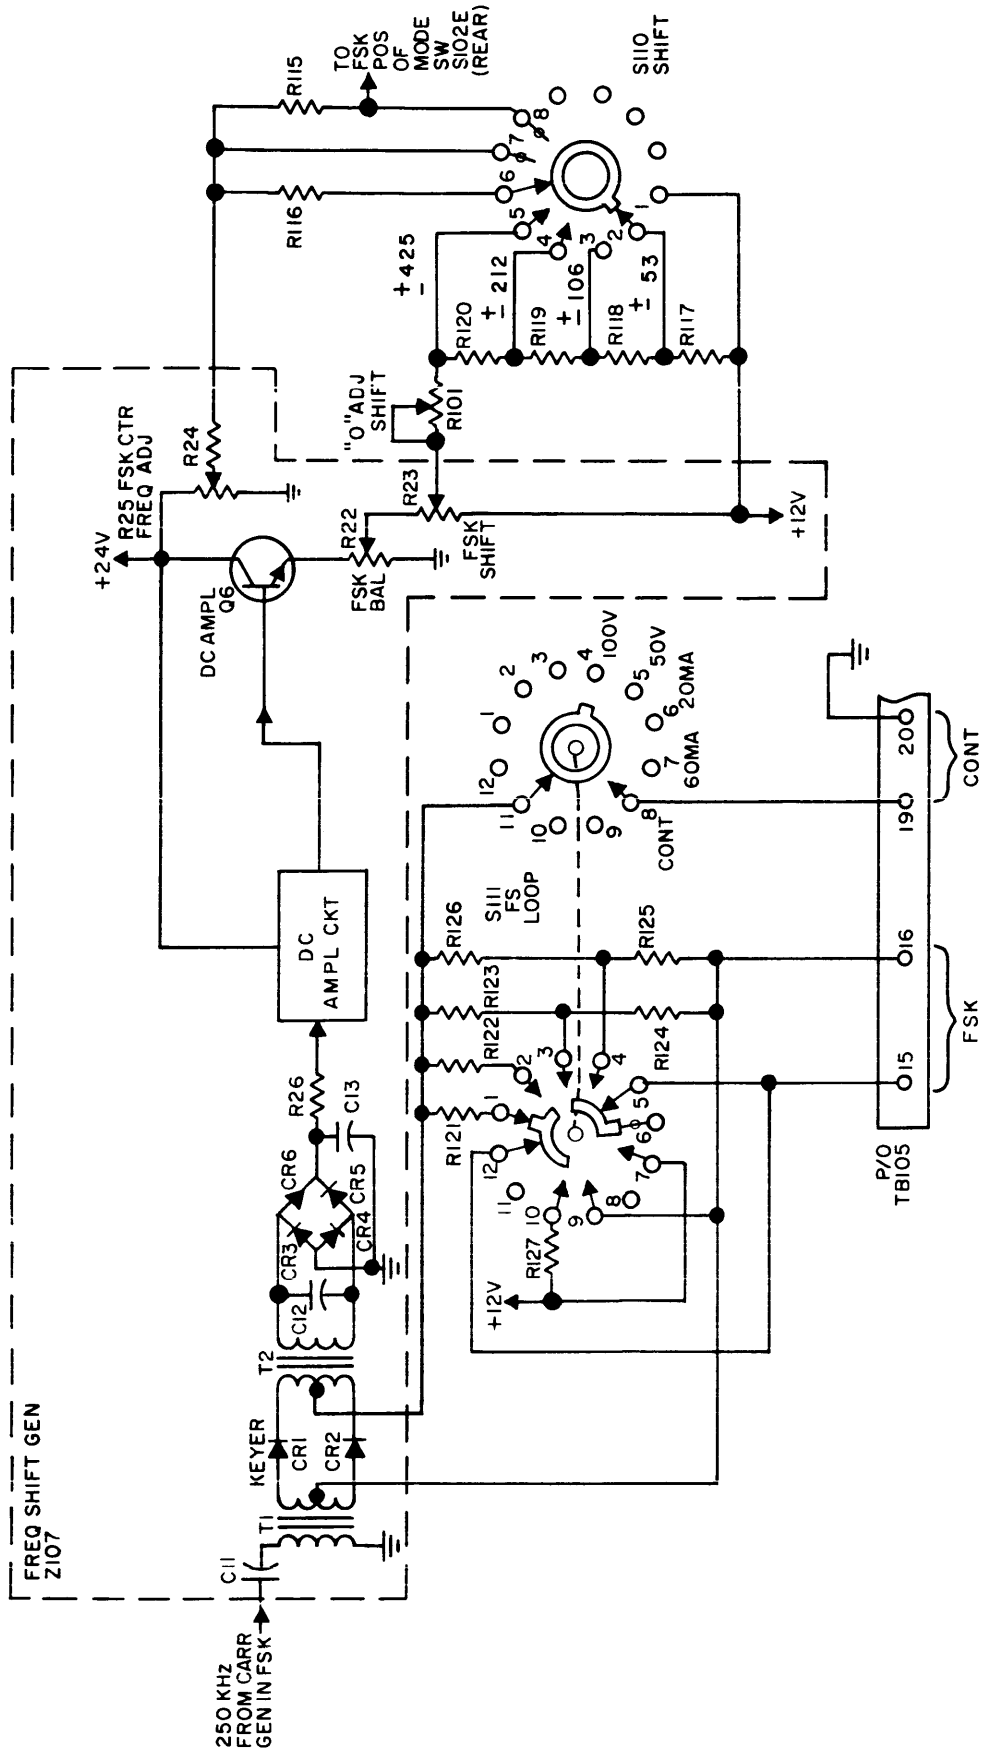

Figure 4-4. Frequency Shift Keyer Circuit, Simplified Schematic Diagram
f. FREQUENCY SHIFT GENERATOR Z107. (See figures 4-4 and 7-5.) The frequency shift generator is operational in the frequency shift keyer (FSK) and facsimile (FAX) modes of operation, and consists of three distinct sections; namely, the 1.4166 MHz VXCO buffer-amplifier, the FSK keyer and modulator, and the FAX circuit.
(1) Both FSK and FAX operation is initiated when MODE switch S102D (front) is set to either the FSK or FAX position as previously indicated in the discussion of MODE switching. In either of these positions, S102D supplies a +12 vdc enable to both the 1.4166 MHz crystal voltage controlled oscillator Z302 in the power supply assembly, and to the buffer-amplifier circuit in frequency-shift generator Z107. With MODE switch S102 in the FSK position, S102C (rear) (through contacts 9 and 10) routes the 250 kHz subcarrier frequency from carrier generator Z104 to the frequency shift generator keyer circuit (via pin 4 of jack J107) consisting of coupling transformers T1/T2 and keyer diodes CR1/CR2. The keyer circuit is, in effect, a modulator, in that the 250 kHz input is interrupted by a dc current representing marks and spaces from an externally connected dry-contact keyer or teletype at terminals 15 and 16 of TB105. (See figure 4-4.) The keyer input pins F and E of jack J107 is connected to the modulator through FS LOOP switch S111 which is set to the 100V or 50V positions when dry contact keying is used, and to the 20mA or 60mA positions to match the dc battery loop when a teletype keyed input is used. The external keying rate is 200 WPM and 75 bauds. By keying the 250 kHz subcarrier, a frequency shift above and below center frequency is obtained, corresponding to the marks and spaces of the teletype input. This signal is coupled through T2 to the full-wave bridge rectifier consisting of diodes CR3 through CR6; the resultant varying dc signal is then applied to a series of three dc amplifiers, Q3 through Q5, and an output emitter follower, Q6. (See figure 7-5.) Amplifier Q4 is inserted in the circuit when dc SENSE switch S109 is in the positive (+) position; otherwise, in the negative (-) position, Q4 is bypassed. The variable dc output is developed across FSK Balance potentiometer R22 and applied to FSK Shift potentiometer R23; the dc output is coupled by pin 5 of jack J107 to SHIFT switch S110. FSK Center Frequency Adjust potentiometer R25 sets the average level about which the dc signal varies (available at pin 7 of jack J107), and thus the center frequency of the VXCO in the power assembly. DC regulator Q8 provides a regulated 24 vdc to the dc amplifier circuit from the +24 vdc supply input line; regulator Q7 supplies a regulated +12 vdc to SHIFT switch S110 and R23 from the +12 vdc MODE switch input. SHIFT switch S110 effectively sets the amplitude of the dc signal varying about the average dc level as set by R25. By changing the maximum amplitude, the shift in VXCO output